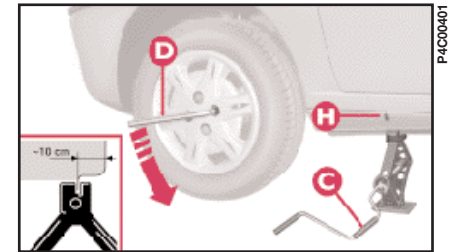

fig. 3
5) Place the jack at the point marked by a notch H (fig. 3) near the wheel to be changed at approximately 10 cm towards the centre of the car (fig. 3).